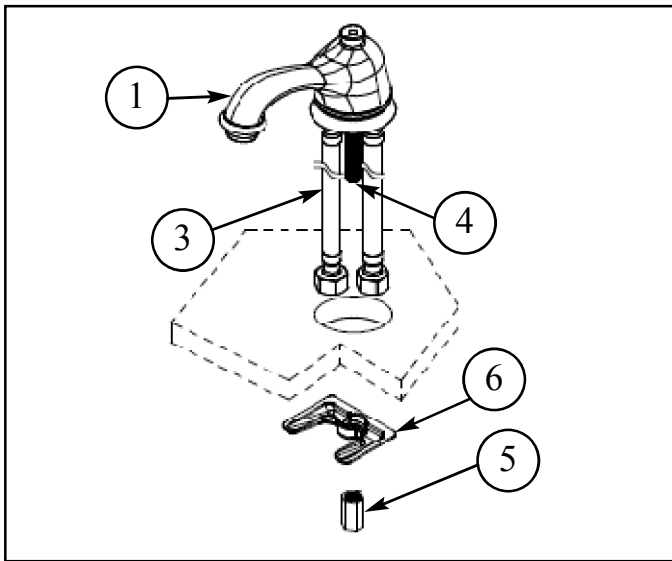

Figure 1
1. Insert HOSES (3) and MOUNTING STUD (4) through ESCUTCHEON (2) and sink hole, (apply putty or silicone to underside of ESCUTCHEON (2)). Align SPOUT (1) and secure into place with MOUNTING BRACKET (6) and NUT (5). See Figure 1.